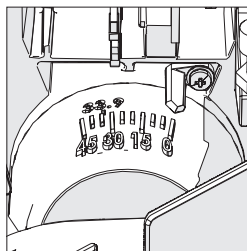

Fig. 23
- Tilt the cutting head to the required angle. A protractor scale is provided as an aid to setting (**Fig 23**).